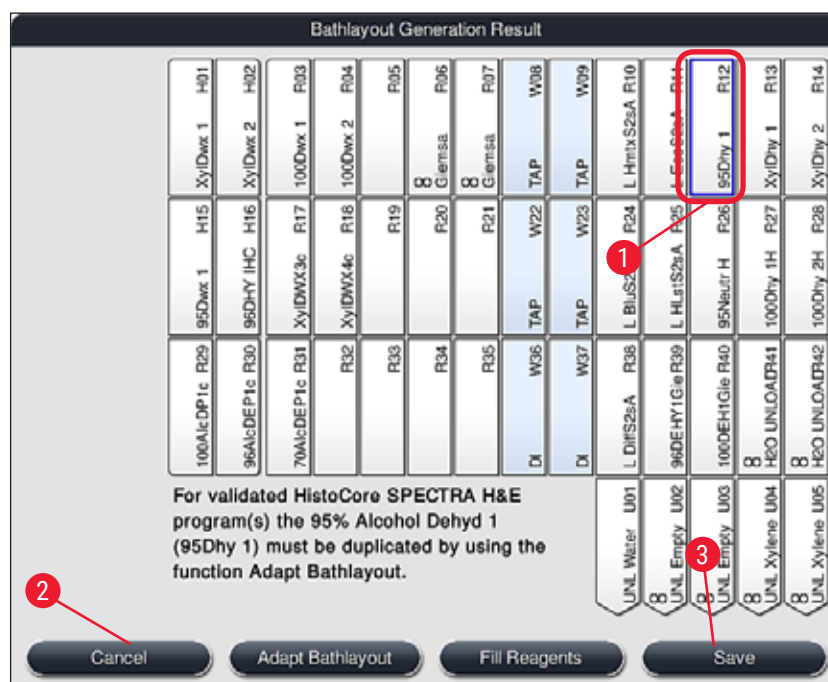

Fig. 53
- After the software calculates the bathlayout using the prioritized programs, the user obtains an overview of the results displayed on the screen (→ "Fig. 53").
- If no Leica programs have been integrated into the bathlayout, the display (→ "Fig. 53") deviates from the one shown (not pictured). In this case, the reagents can be filled as described in (→ P. 77 – Filling the reagents).